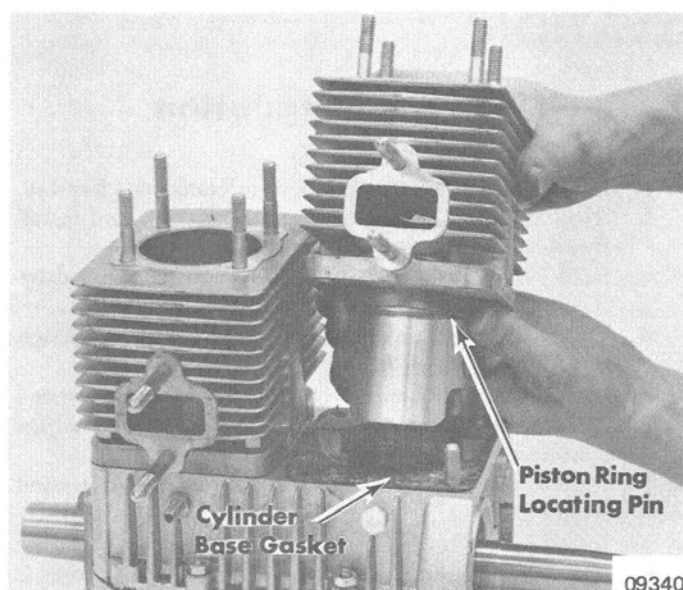

Figure 6. Installing Cylinder
3. Install No. 1 cylinder over No. 1 piston and No. 2 cylinder over No. 2 piston. Compress piston rings with fingers while installing each cylinder over its respective piston. (Figure 6) Piston rings must be properly positioned with piston ring locating pins at piston ring gaps. Cylinders are properly positioned when intake ports of cylinders are toward pulse hose fitting in crankcase. Rotate crankshaft until piston rings can be viewed thru exhaust port. Depress each ring with a small punch or screwdriver (it will not "spring back" if broken).